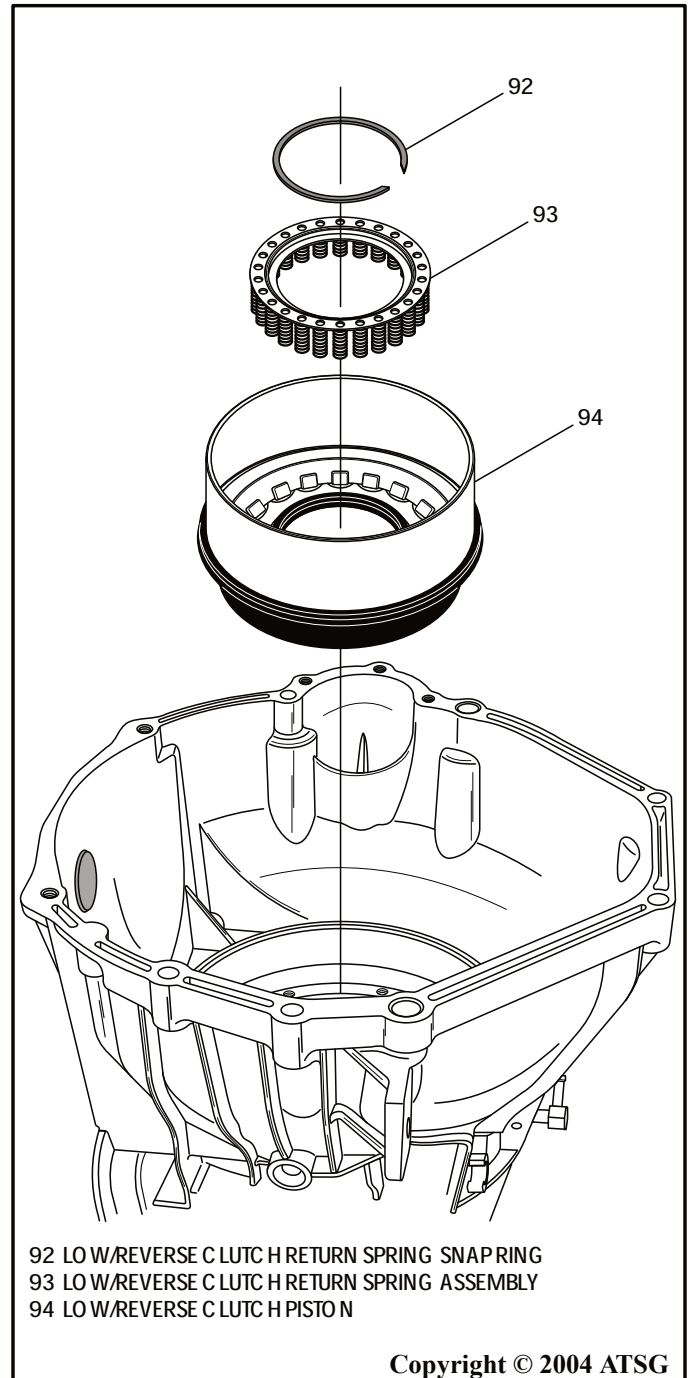

Figure 56
7. Lube the seals on a new low/reverse molded piston and install piston into case, as shown in Figure 56.
8. Install the low/reverse piston return spring, as shown in Figure 56.